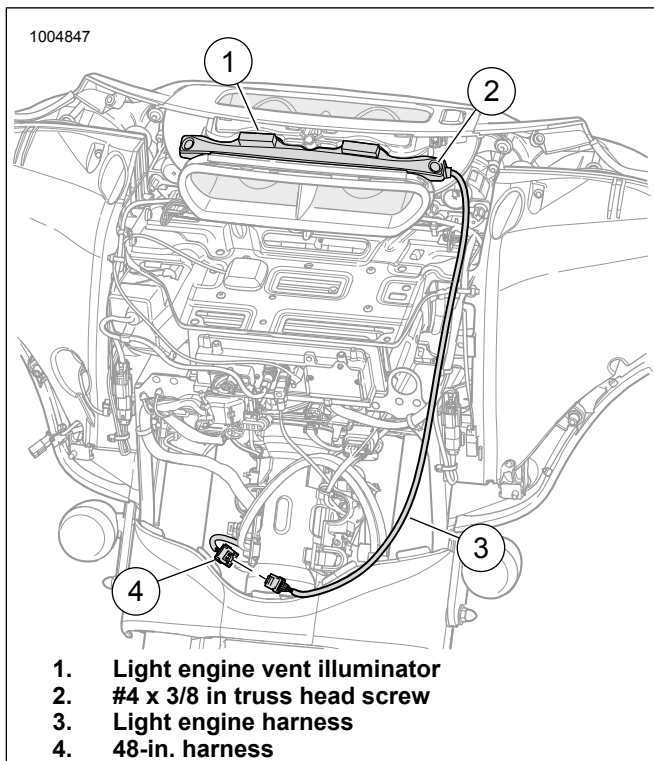

Figure 5. Harness Connections
7. Figure 5 Position light engine vent illuminator (1) onto fairing vent and secure it with two #4 x 3/8 in. truss head screws (2).
10. Figure 5 Route light engine harness (3) from light engine vent illuminator (1) to steering head and connect to the 48-in. harness (4) at steering head.